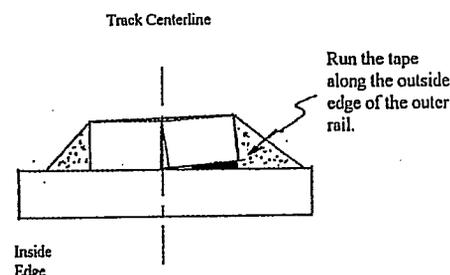

Figure 2-1
STEP 6. Use a piece of roadbed, to mark the **outside (NOT THE INSIDE)** edge of the roadbed. Take the first layer of 3/8 inch tape and start at your first mark. Lay the tape along the outer edge of the outside track, See Figure 2-1, not along the centerline of your easement or curve. You are only trying to elevate the outer edge of the outside rail, not the center of the ties. Sorry, it doesn't work that way, trust me. Run the layer to the other mark. Press this down very firmly to ensure a solid base for the next layer..
STEP 9. Lay down the outside piece(s) of roadbed. Again glue and brads work best. This outside piece will not lay flat, it is not supposed to, see Figure 2-1. Here is where having already laid the inside roadbed helps. The centerline edge of the inside roadbed gives you a solid edge to hold the outside piece against, minimizing any difficulties created by the tape. When in place, the roadbed will hold the tape down, eliminating warping due to humidity. You can trim any excess tape that is visible from under the roadbed, or you can simply cover it up with ballast.